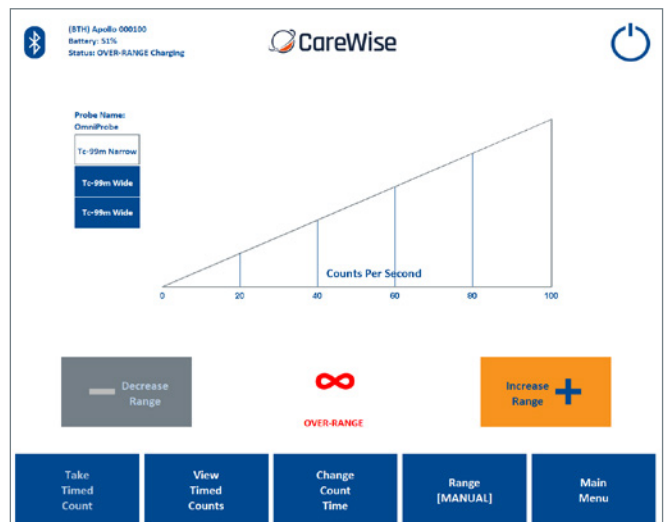

Figure 39 – Over-Range Error
**Over-Range Error** – [Figure 39] If the measured count rate exceeds the measurement capacity of the probe (e.g. by moving the probe in the vicinity of a very high level of radioactivity), the system will enter an 'over-range' state, leading to an audible warning and an infinity symbol being displayed in place of the measured count rate value. Moving the probe away from the source of radioactivity will reinstate the default 'counting' state of the system.